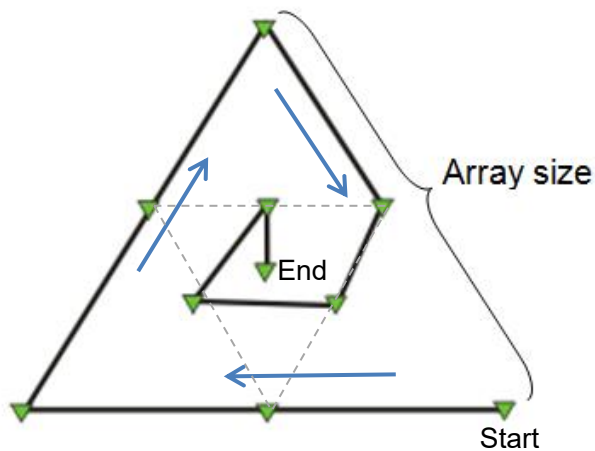

Figure 2.1 Map view of MAM survey equilateral triangle spread configuration with 10 geophones (Triangle 10).
1) In microtremor array measurements (MAM), the array size (or maximum separation of receivers) must be larger than the depth of investigation. For example, the array size must be bigger than approximately 30 m in the investigation for an AVS30 investigation. SeisImager allows four set types of array configurations as well as a custom option. Figures 2.1 through 2.5 illustrate the various set configurations. Note that “Array size” in the Figures is the definition used for processing in SeisImager and not the same as the maximum receiver separation. See SeisImager/SW manual for more details. As in Figure 1, the black line represents the order of the Atom’s ID and the green inverted triangles represent each Atom.